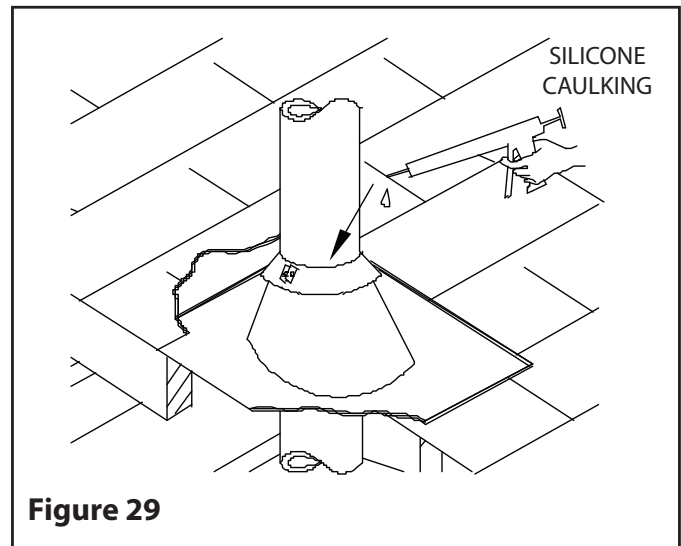

Figure 29
Step 8: Tighten the collar using the supplied bolt. Make sure the joint is properly caulked (**see Figure 29**).